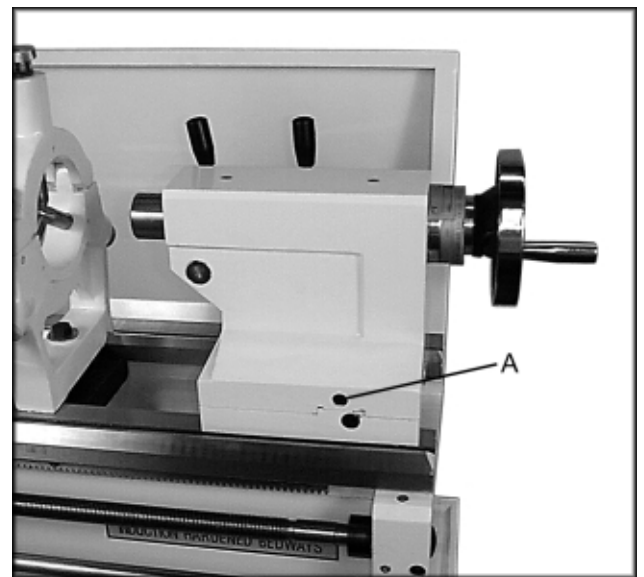

Fig. 28
3. If tailstock adjustment is needed, alternately loosen and tighten front and rear hex socket cap screws (A, Fig. 28).